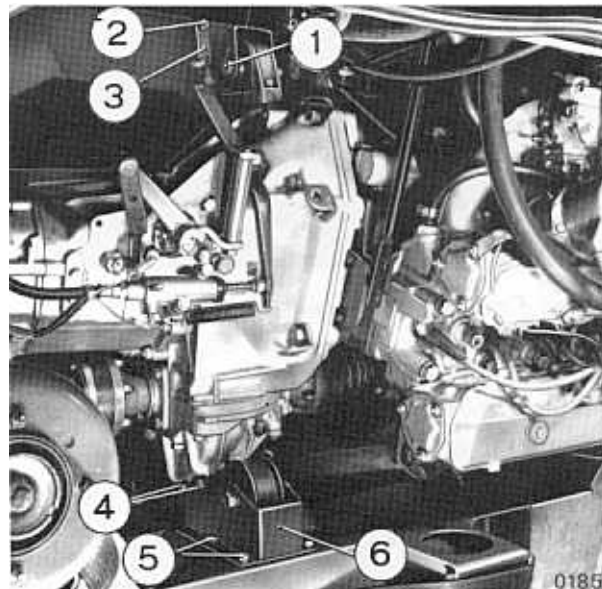

Fig. 01 2/71 - Gearbox mountings
- Place the hoist above the car, secure the engine to lifting hook 88017362 and cable 88097251 set as shown in fig. 01 2/ and take up the slack.